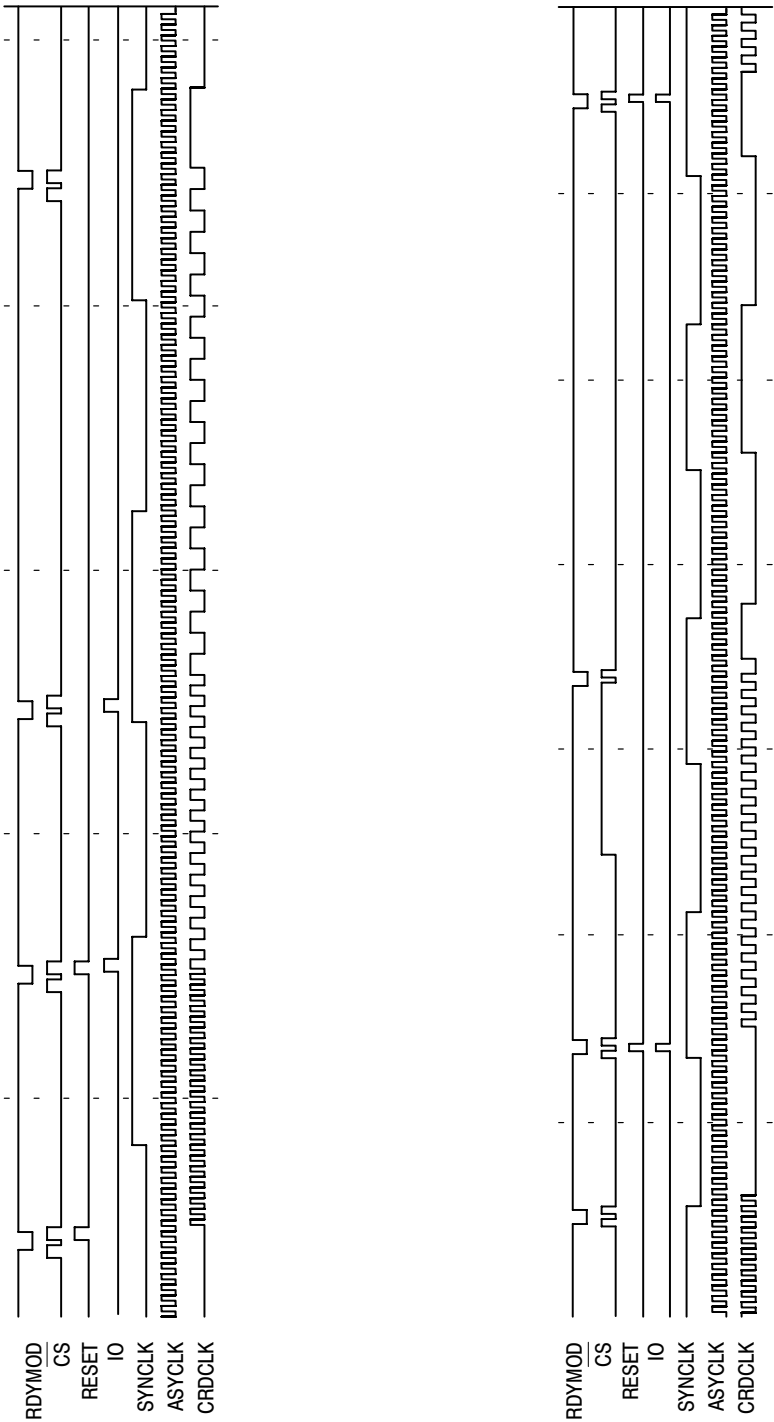

Figure 29. "On-the-Fly" Card Clock Selection Examples
Clock Signal Synchronization and Consistency (see Figure 29). The clock divider includes synchronization logic that controls the switch from synchronous clock to asynchronous (and vice-versa), from any division ratio to any other ratio, during \overline{CS} changes and at power up. The synchronization logic guarantees that each clock cycle on the **CRDCLK** pin is finished before changing clock selection (and has always the adequate duration), regardless of the moment the programming is changed.
- Consistent clock signal, even when division ratio or synchronization clock signal are changed “on the fly” during a card session (see Figure 29)